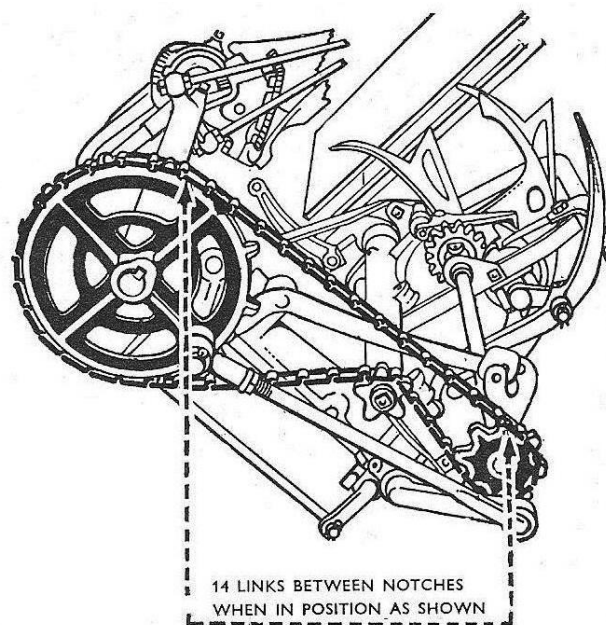

Fig.5.4 Correctly timed knotter & sheaf/truss discharge mechanism on a (*chain-driven*) Massey-Harris machine
- There should be 14 drive chain links between the timing marks on the driving & the driven sprockets (*Fig.5.4*)